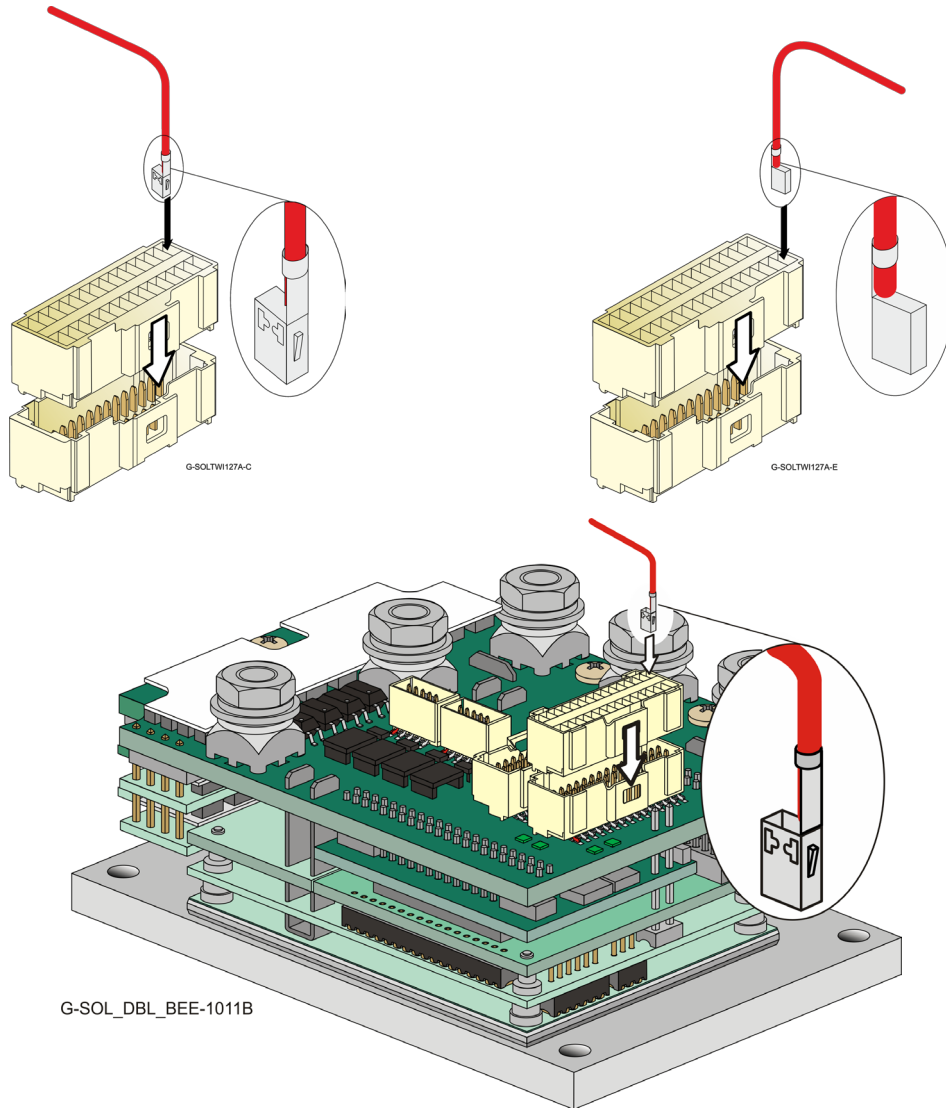

Figure 5: Inserting a wire/pin to the Female Connector
3. Place the connector on a flat surface, in the orientation as shown in Figure 5. Notice that the rectangular slot has a niche at the bottom of the slot.
4. Insert the wire connector to the slot as shown in Figure 5. Make sure that the connector protrusion is inserted to the bottom of the rectangular slot. When inserting the wire connector to a slot in the second row, make sure to rotate the connector in the opposite orientation.